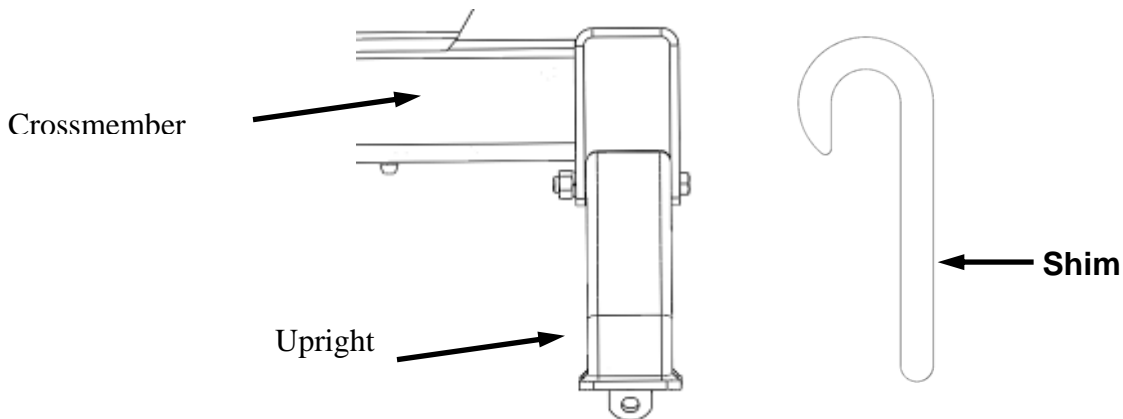

Figure 9
9. Check each base rail hitch pin for freedom of movement before tightening the 5/8" base rail bolts. Adjust uprights, if necessary, by placing shim 31582 or 30243 between the upright and the cross member to obtain free pin movement. See Figure 9. Shims 31582 & 30243 sold separately